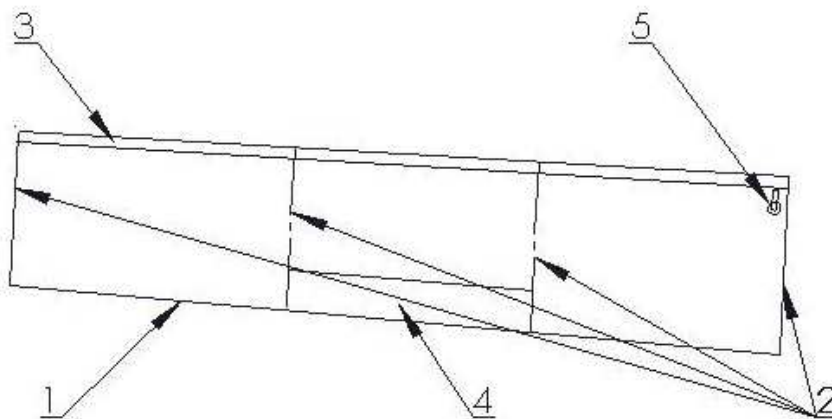

Fig. 4-3
Ailerons (Fig. 4-3) are of aluminum structure consisting of the aluminum skin (1) and ribs (2) which are connected by means of riveting. Ailerons are suspended on the rear spar by means of piano hinges (3). Moreover the trim tab (4) is installed on the left aileron serving the lateral balance of airplane. Control lever (5) is installed on the root aileron rib.